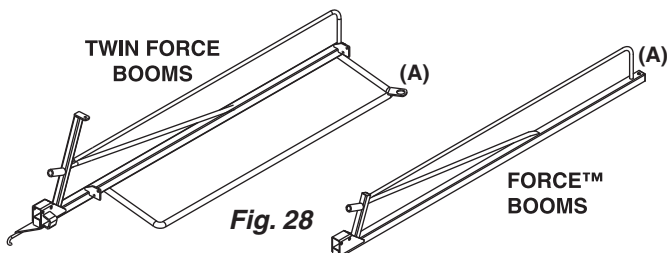

Fig. 28
- A mount tab (A) for the Foam Dropper assembly is fixed to the outer edge of the breakaway frame. The Foam Dropper assembly is to be removed from the mount bracket arm and refitted to the mount tab (Fig. 28).